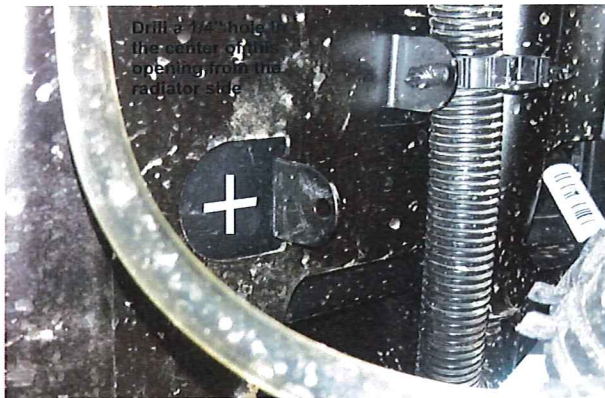

Figure 1a
3. Using the 1 1/4" Hole Saw drill through the firewall. Refer to Figures 1a, 1b and 1c.